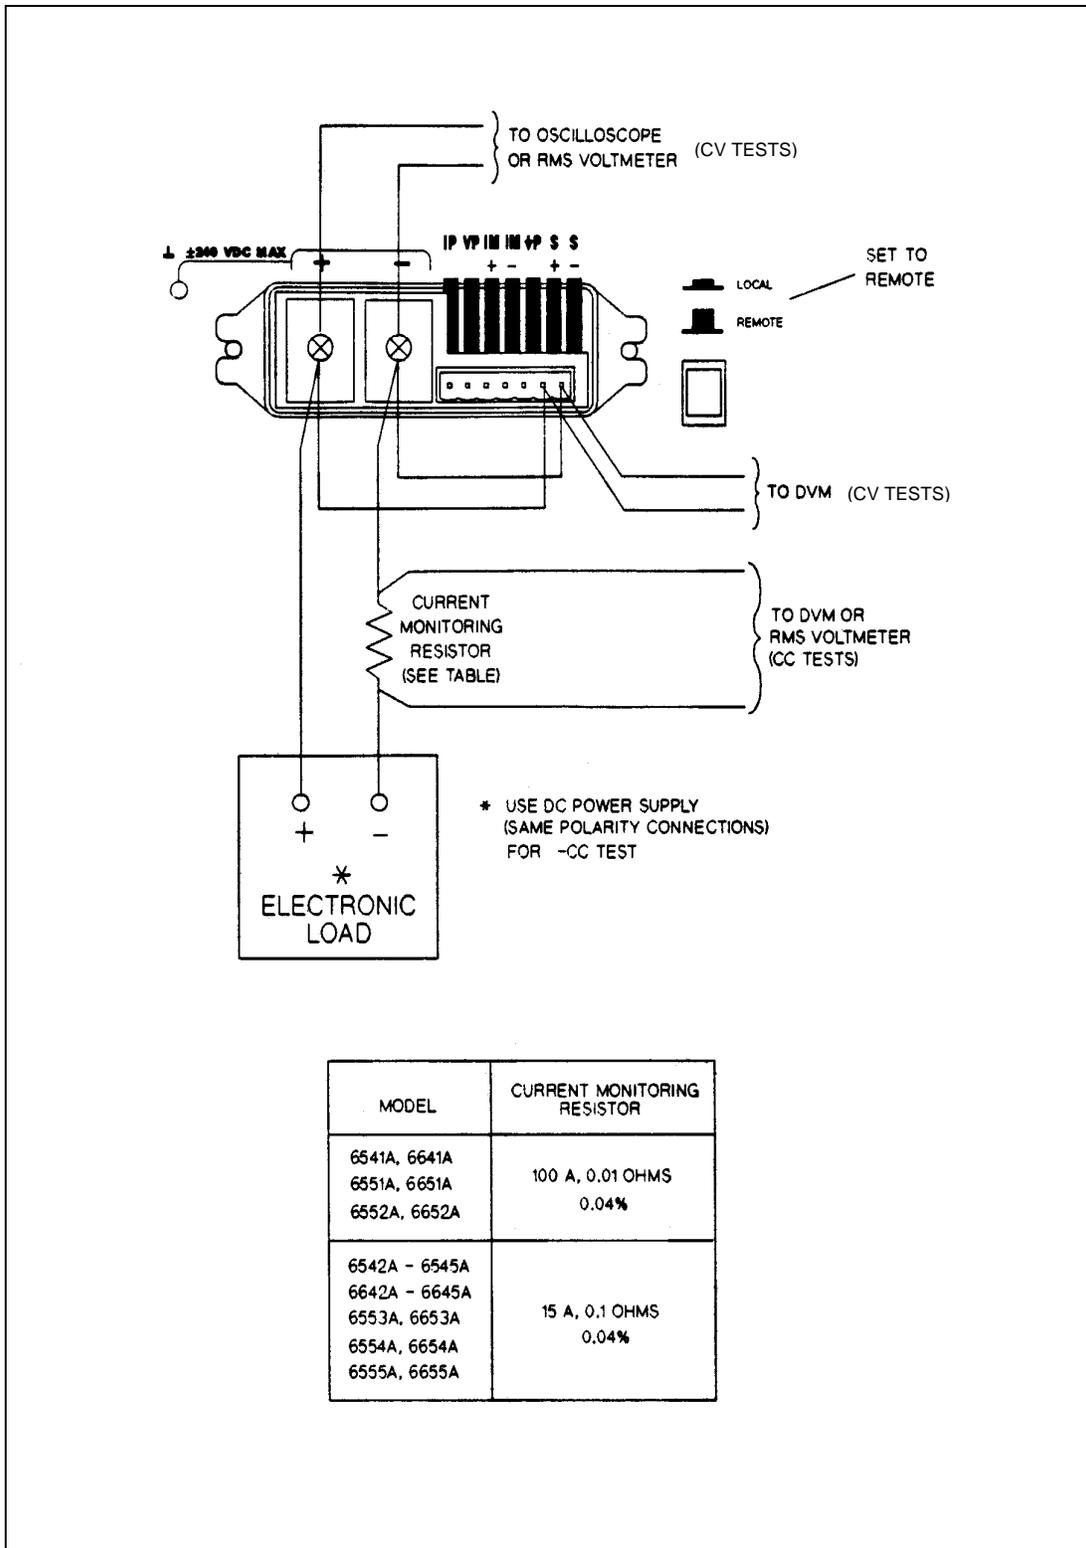

Figure 2-1. Basic Test Setup
Most tests are performed at the rear terminals of the supply as shown in Figure 2-1. Measure the DC voltage directly at the +S and -S terminals. Set the output for remote sensing and use adequate wire gauge for the load leads as described in Chapter 4 of the Operating Manual.
- Turn off the supply and connect a digital voltmeter between the +S and the -S terminals as shown in Figure 2-1.
- a. Turn off the supply and connect the output as shown in Figure 2-1 with the DVM connected between the +S and -S terminals.
- b. Connect the output as shown in Figure 2-1 with the DVM connected between the +S and the -S terminals. Set the transformer to nominal line voltage.
- a. Turn off the supply and connect the output as shown in Figure 2-1 to an oscilloscope (AC coupled) between the (+) and the (-) terminals. Set the oscilloscope's bandwidth limit to 20 MHz and use an RF tip on the oscilloscope probe.
- Turn off the supply and connect the output as in Figure 2-1 with the oscilloscope across the +S and the -S terminals.
- a. Turn off the supply and connect the output as shown in Figure 2-1, except connect a DC power supply in place of the electronic load as indicated.
- a. Turn off the supply and connect the output as shown in Figure 2-1 with the DVM connected across the current monitoring resistor.